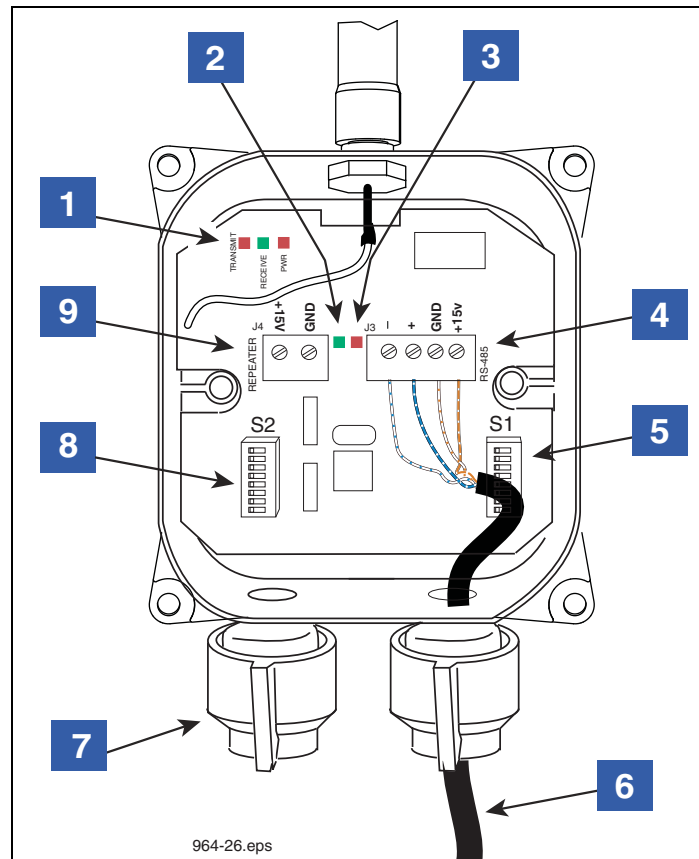
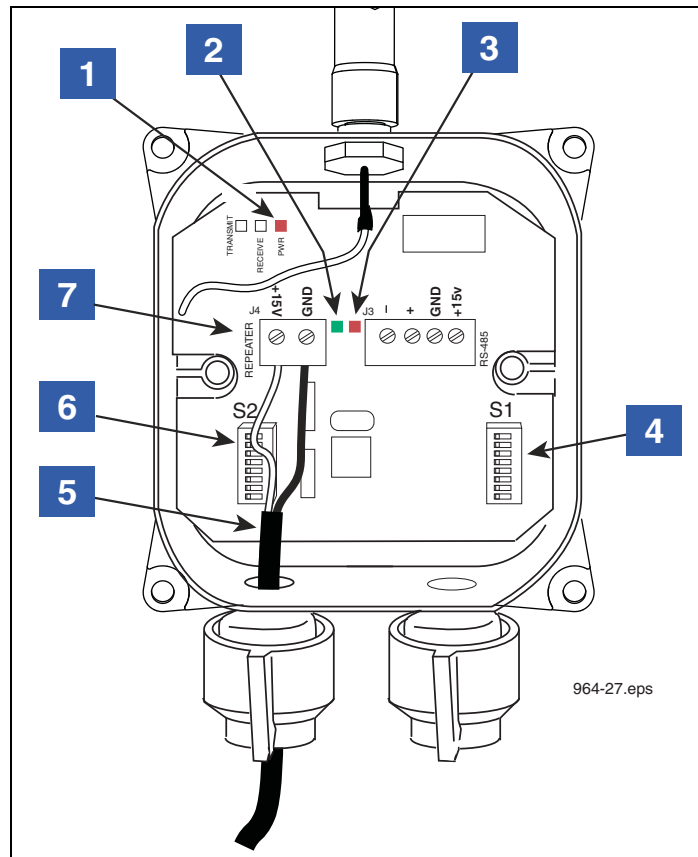

Figure 23. Wiring The Receiver
Figure 24. Wiring The Repeater
6. Note that there are two twisted pair color-coded wires in the cable (e.g., a white with blue stripe and blue with white stripe pair and a white with orange strip and orange with white stripe pair). One of the pairs is for RS-485 communication (- & + terminals) and the other pair is for Receiver power (+15 Vdc & Gnd). Using Figure 23 as a guide, attach the wires of the two twisted pairs to the RS-485 terminals.
8. If a Repeater is used and powered by the Receiver, push the two wire power cable (to Repeater) through the +15 Vdc cord grip of the Receiver (item 7 in Figure 23).
10. Attach the dc power cable (white to +15 Vdc and black to GND) to the Repeater terminal block (item 9 in Figure 23).
**LEGEND FOR NUMBERED BOXES IN Figure 23**
7. A solid bushing must be installed to seal the Receiver when this cord grip is unused. In sites where a Repeater is powered from the Receiver, the Repeater’s power cable enters through this cord grip and attaches to the Repeater terminal block (item 9).
9. +15 Vdc power source for the Repeater. If used, connect two wires from item 9 connector in Receiver to item 7 connector in Repeater, see Figure 24.
1. Use of a single repeater is optional but may improve system performance when installed correctly. The Repeater should be located closer to the device transmitters to rebroadcast messages to the Receiver. Use the 15 Vdc power source provided in the Receiver to power the Repeater, or use a customer supplied non-interruptible, Class 2, 15 Vdc power source. The most common method of powering the Repeater power is to use the Repeater power terminal block J4 in the Receiver (see item 9 in Figure 23).
4. Note the cover of the Repeater indicates the cord grip to be used for the cable connecting the Repeater to its dc power source (item 5 in Figure 24). Remove the cover of the Repeater and set it aside.
6. Connect the 2-wire dc power cable to the Repeater terminal block, white to +15 Vdc and black to GND (see item 7 in Figure 24).
9. The other end of the Repeater's dc power cable connects to the Receiver's +15 Vdc output terminal (ref. item 9 in Figure 23), or to a non-interruptible, Class 2, 15 Vdc power source.
**LEGEND FOR NUMBERED BOXES IN Figure 24**
- 5. DC Power input cable (from Receiver [item 9 connector - see Figure 23], or dc power source)